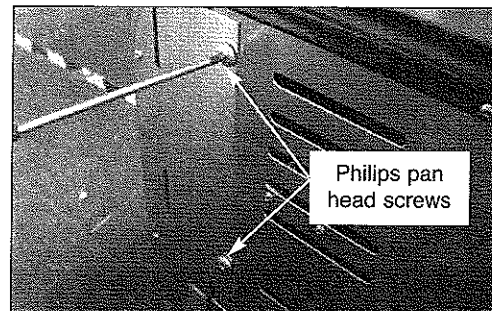

Fig 7
7. Remove the four (4) phillips pan head screws at both sides of the the front control panel. (See Fig. 7)
10. Push the fornt control panel back in position. Then use the four (4) screws removed in step 7 to secure the fornt control panel in position. (See Fig. 7)